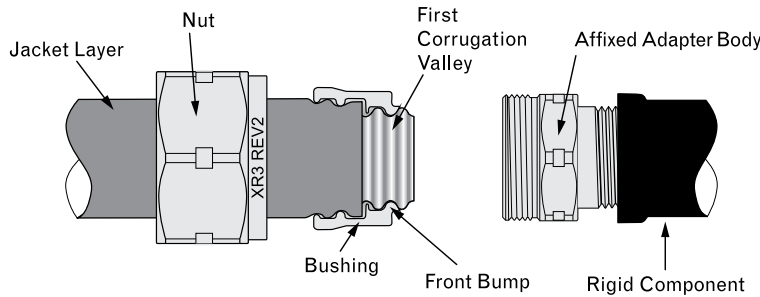

Fig. 4-7
**STEP 4 POSITION BUSHINGS (FIG. 4-7)**